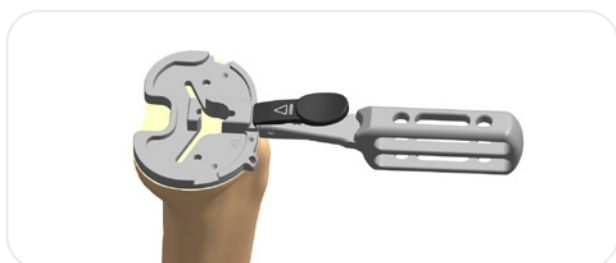

Figure 39
1. Select the baseplate trial based upon best fit and coverage on the resected tibia. Typically, this is one size below the femoral component size. Set position of the tibial baseplate based upon the anatomic landmarks of the tibia (best fit coverage and medial third of the tubercle). Alignment can be confirmed at this point by dropping an alignment rod through the EM Alignment Guide Handle. Pin the baseplate using one or two short spikes (**Figure 39**).